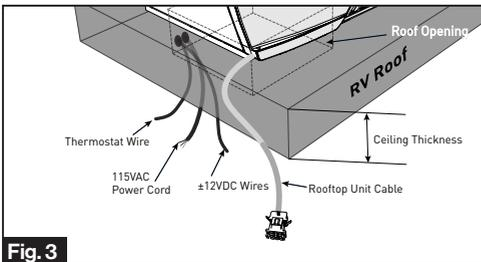

Fig. 3
2. Reach up into the return air opening and pull the rooftop unit electric cord, 115VAC power cord, ±12VDC and thermostat wires. (Fig. 3)